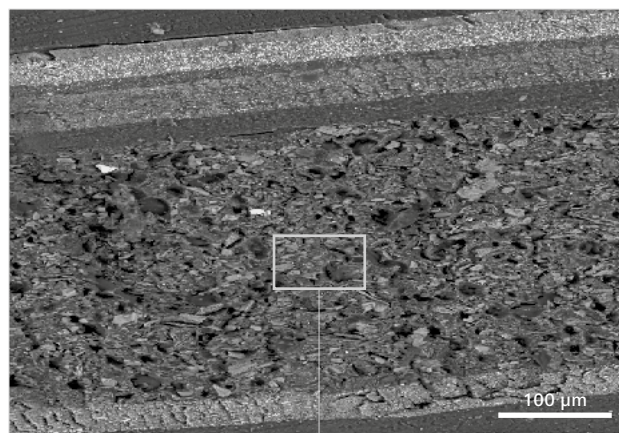
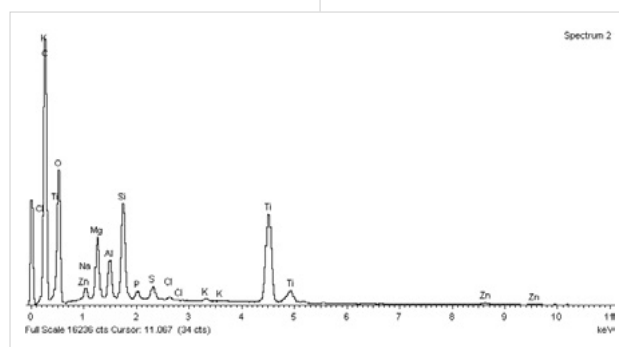

Figure 3 BSD image
Figure 4 EDS
Variable pressure (VP) imaging is also used for the imaging and analysis of insulating paint layers. The backscattered detector image of the paint chip in Fig 3 reveals: the presence of layers, individual textures, and the variation of thicknesses across the layers. The EDS spectrum in Fig. 4 provides information about the chemical composition of the marked layer of the paint flake. The ninth layer contains: C, O, K, S, P, Cl, Na, Si, Ti, Al, Mg, and Zn.